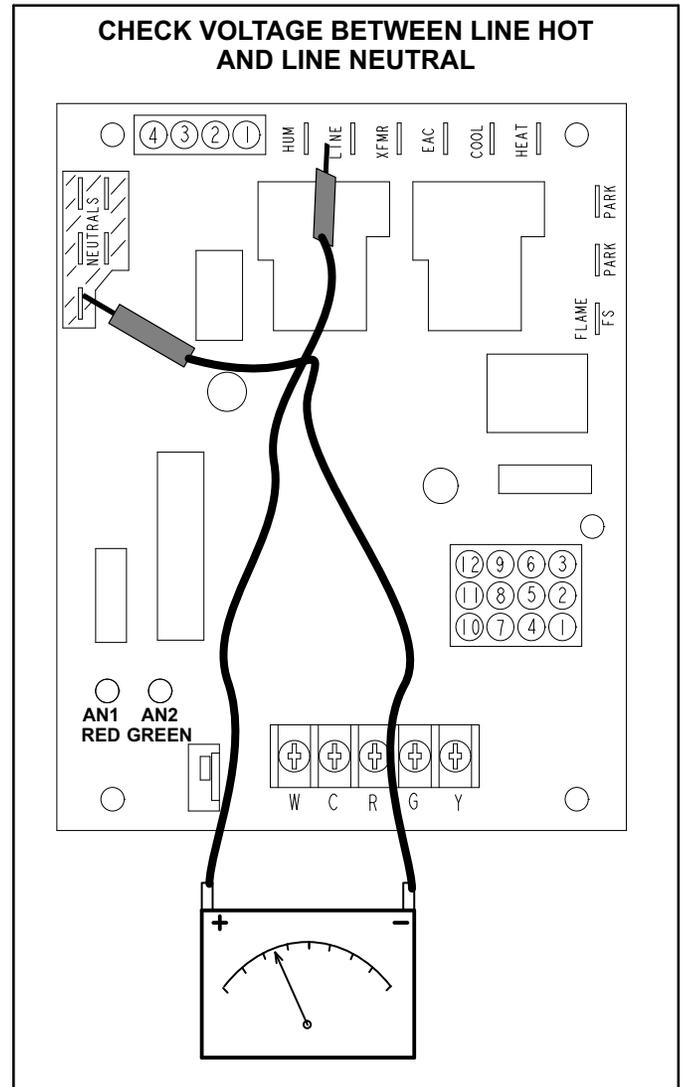

FIGURE 17
- 2 - In addition, measure the AC voltage from Line Hot to Line Neutral (spade terminals) on the integrated control. See figure 17. This voltage should be in the range of 97 to 132 Vac